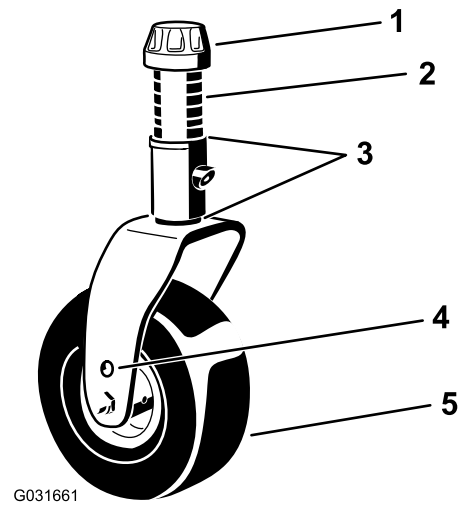
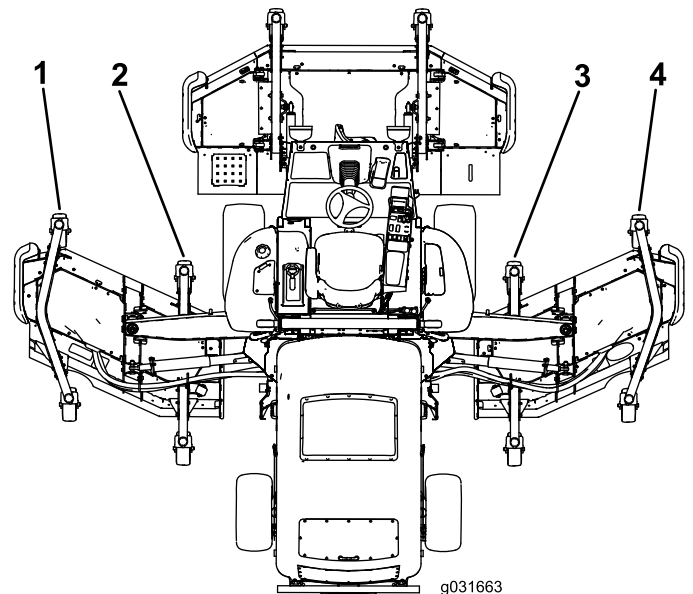

Figure 28
Figure 29
5. If the inside edge of the wing cutting unit is too high relative to the outside edge of the front cutting unit, remove 1 shim from the bottom of the front, inside caster arm on the wing cutting unit (Figure 28 and Figure 29).
6. If the inside edge is still too high, remove an additional shim from the bottom of the front, inside caster arm of the wing cutting unit and 1 shim from the front, outside caster arm of the wing cutting unit (Figure 28 and Figure 29).
7. If the inside edge of the wing cutting unit is too low relative to the outside edge of the front cutting unit, add 1 shim (1/8 inch) to the bottom of the front, inside caster arm on the wing cutting unit (Figure 28 and Figure 29).